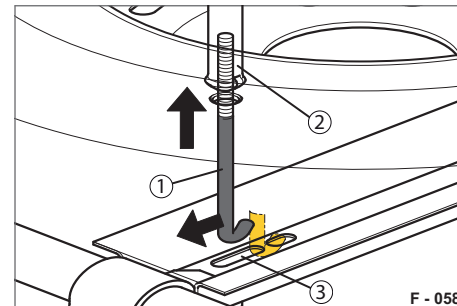

Fig. 92 Unscrewing the hook bolt
- ▶ Lower the hook bolt (Fig. 92/1).
- ▶ Lead the hook bolt to the rear end of the slot (Fig. 92/3).
- ▶ Lead the hook bolt to the front end of the slot (Fig. 92/3).